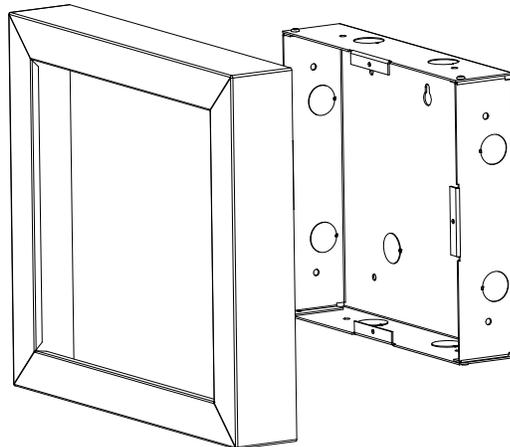

**Figure 4.15 Attaching Annunciator/Door Assembly to Backbox**
9. Attach the door assembly to the backbox using the screws provided. Refer to Figure 4.15.